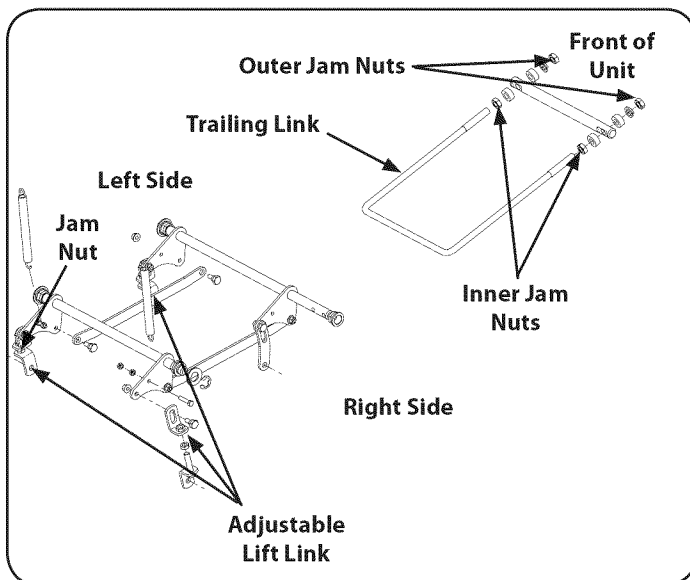

Figure 34
5. With a 3/4" wrench loosen the lower jam nut of the left side of the lift link. To adjust the side of the deck up or down turn the upper jam nut clockwise (to raise) or counter clockwise (to lower) a few turns. See Figure 34.
8. The final adjustment would be to set the Trailing Link by adjusting the jam nuts on the threaded link. Loosen the jam nuts and tighten the inner nut to achieve the correct length and belt tension. See Figure 34.
To tighten or loosen the tension on the belt, tighten or loosen the jam nuts on the U-rod, see Figure 34, until a ten-pound pull with a spring scale deflects the belt about 1/2".